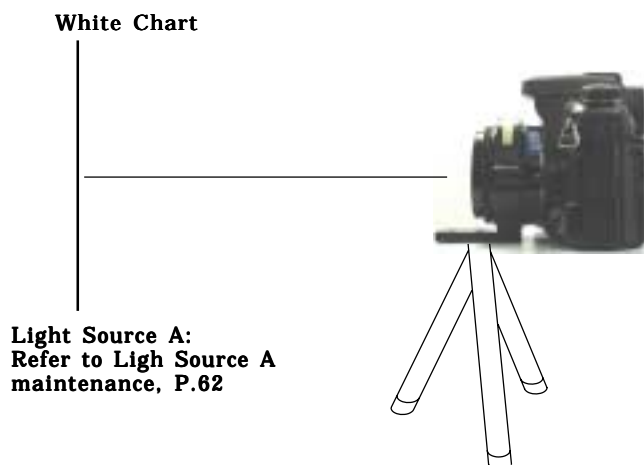

Fig. 2
4. Click "OK" after setting light source-C, according to the displayed information. (Fig. 2)
13. Click "OK" after setting light source C, according to the displayed information. (Fig. 2)